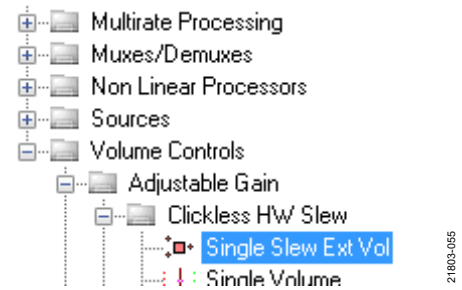

Figure 56. Adding a **Single Slew Ext Vol** Component
- Add an externally controlled volume control with slew (to prevent zipper noise), the **Slew vol 1** block, by clicking the **Single Slew Ext Volume** component from the **Volume Controls > Adjustable Gain > Clickless HW Slew** folder (see Figure 56), and then dragging it to the project space.